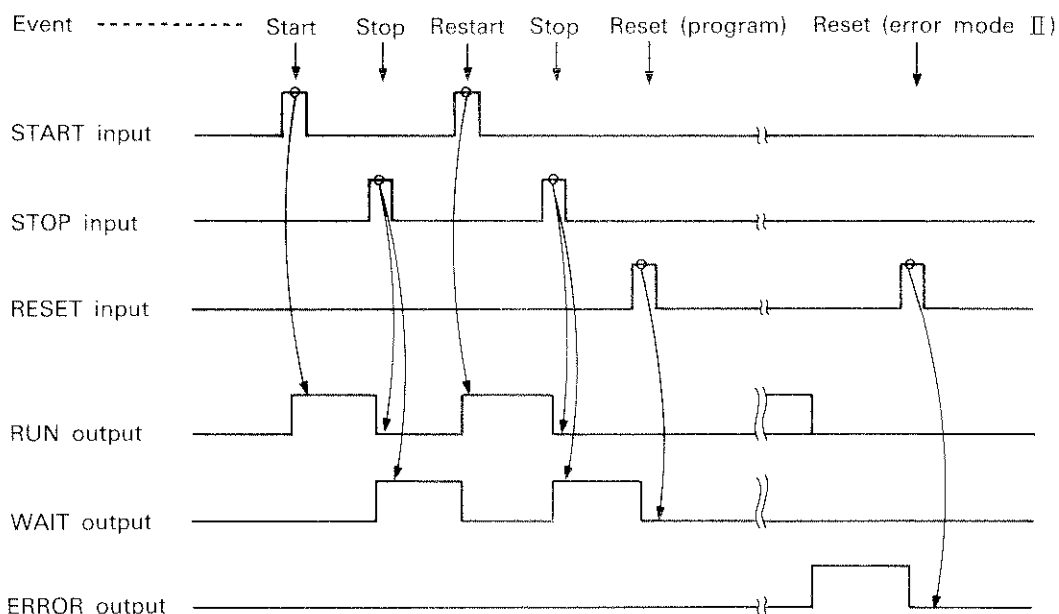

Fig. 5.3.5.B Dedicated I/O Timing
- (4) Output from the dedicated outputs are the signals corresponding to the robot operating conditions (RUN, WAIT, and ERROR outputs). These signals are output in either setting, whether in external operation or front control switch operation mode. Fig. 5.3.5.A shows the dedicated I/O timing.